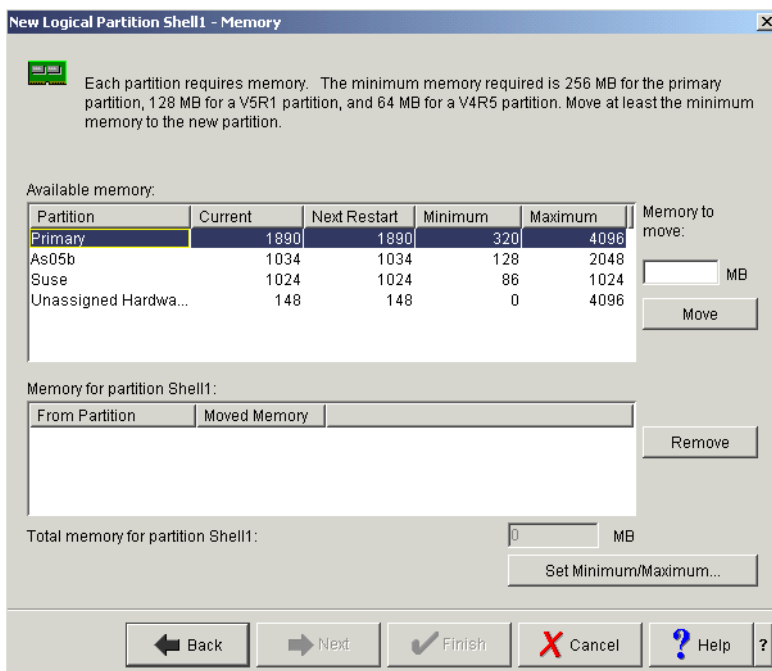

Figure 4-46 New Logical Partition - Memory window
8. The New Logical Partition - Memory window appears as shown in Figure 4-46.
Figure 4-46 shows that all the memory is available in Unassigned Hardware. The only resource requirement for a shell partition is a minimum of 64 MB of memory. This is the minimum memory for a shell partition, not to start the partition. You must allocate more memory before you attempt to start this partition.